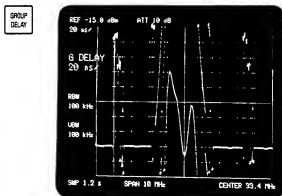

Fig. 7-9 Group delay measurement
- ⑪ If phase overflow occurs in the pass band due to the increased phase resolution, press the (G.D. OFFSET) key to activate group delay offset. Then adjust the phase slope in the pass bandwidth with the DATA knob.
- ⑫ The group delay of the device under test can be observed by pressing the GROUP DELAY key (Figure 7-9).
- ⑬ For more precise group delay measurement, write the group delay of the through response into trace memory A at the same resolution (See 7-1 (5), (6)), bring the display line close to the through response trace, then press the SHIFT and MHz keys to eliminate the the group delay of the measuring system itself. Use of the averaging mode (See 7-1 (8)) will provide still more precise measurement.
- ⑭ If a greater signal-to-noise ratio is desired, press the VIDEO BW key to narrow the video bandwidth. At this time press the SWEEP TIME key and select a relatively long sweep time.